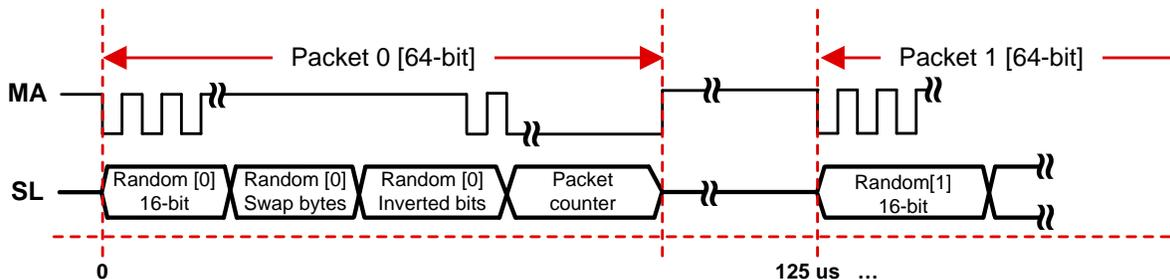

**Figure 26. Test Setup for TIDA-00175 RS485 Performance Measurements**
To generate the test pattern for the RS485 performance tests, a TMS320F28377D MCU was used to implement a high-speed SPI Master to transmit the SPI master clock (MA or MO), as well as to receive and analyze the data (SL) from the slave device at the cable far end. To compensate for the cable propagation delay, delay compensation in software was implemented on the SPI Master. Another MCU was used on the cable far end to realize the SPI slave interface to transmit the synchronous random test data through the full-duplex interface. A block diagram of the test setup is shown in Figure 26.